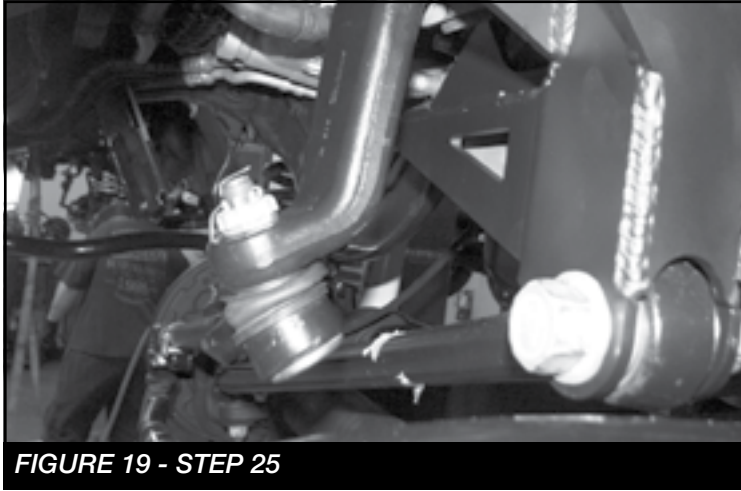

FIGURE 19 - STEP 25
25. Reinstall the track bar to the new frame bracket. Torque to 400 ft-lbs. Install the drag link to the new Fabtech pitman arm using the factory hardware and the new supplied cotter pin. Torque to 70 ft-lbs. **NOTE: The drag link will need to be rotated 180 degrees and installed from the bottom side of the pitman arm. SEE FIGURE 19**